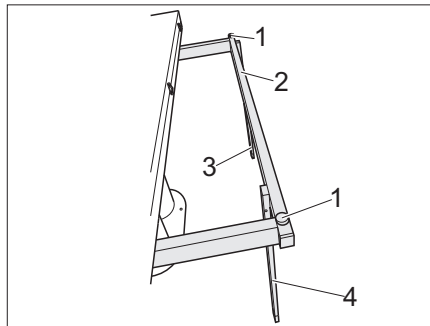

Fig. 109 Move legs into vertical position
- Pull out the table base (Fig. 109,2).
- Move legs (Fig. 109,3 and 4) into vertical position.
- Use the two adjusting screws (Fig. 109,1) to adjust the table-top to the desired height.